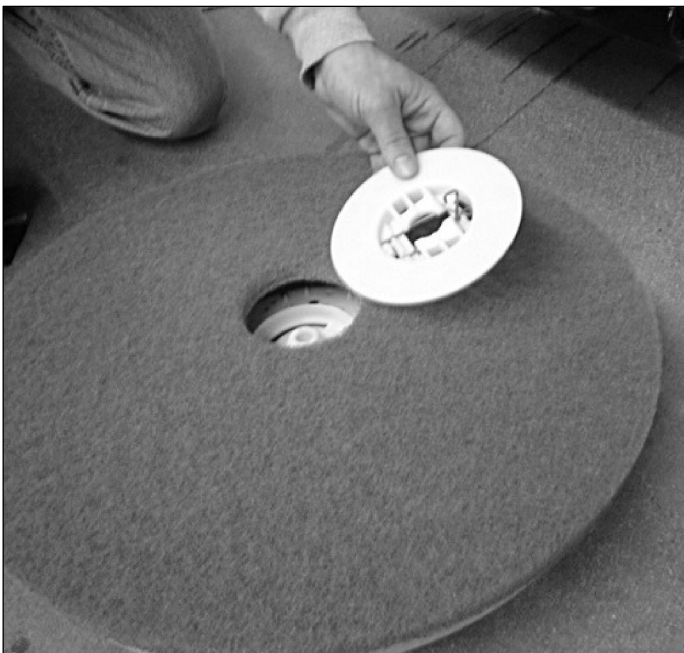

FIGURE 10.
5. PAD INSTALLATION: ATTACH PADS TO PAD DRIVERS BEFORE CONNECTING DRIVERS TO MOTOR HUB. CENTER CLIP SHOULD CLICK TWICE. (SEE FIGURE 10.)